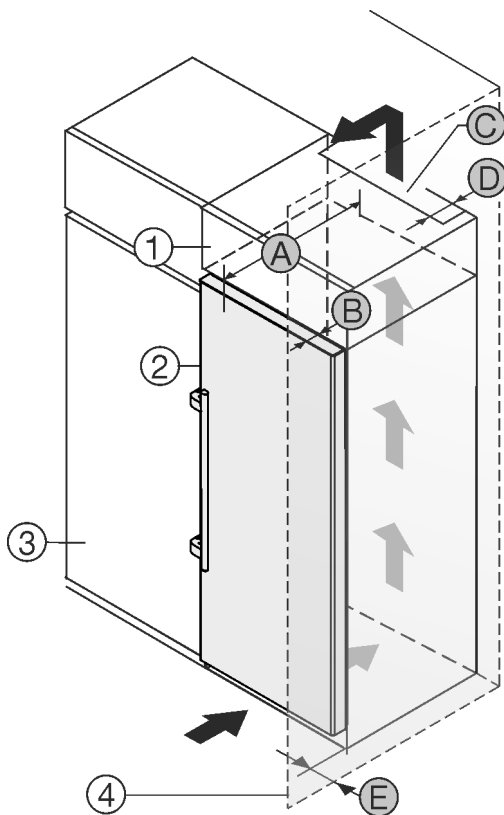

Fig. 24
The appliance can be built into kitchen units. A top cupboard Fig. 24 (2) can be added above the appliance in order to bring the appliance Fig. 24 (1) up to the height of the fitted kitchen units.
If the appliance is positioned directly next to a kitchen cabinet Fig. 24 (3), a distance of at least 5 cm from the appliance is necessary. The appliance must protrude by the depth Fig. 24 (B) from the front of the cabinet so that the doors can be opened fully. The appliance may protrude further depending on the depth of the kitchen cabinets and whether wall spacers are used.
- At the back of the top cabinet, there must be an air outlet shaft with depth Fig. 24 (D), spanning the entire width.
- The ventilation shaft Fig. 24 (C) must be observed under the ceiling.
If the appliance is installed with the hinges next to a wall Fig. 24 (4), the distance Fig. 24 (E) between the appliance and the wall must be observed. This is how far the handle protrudes when the door is open.